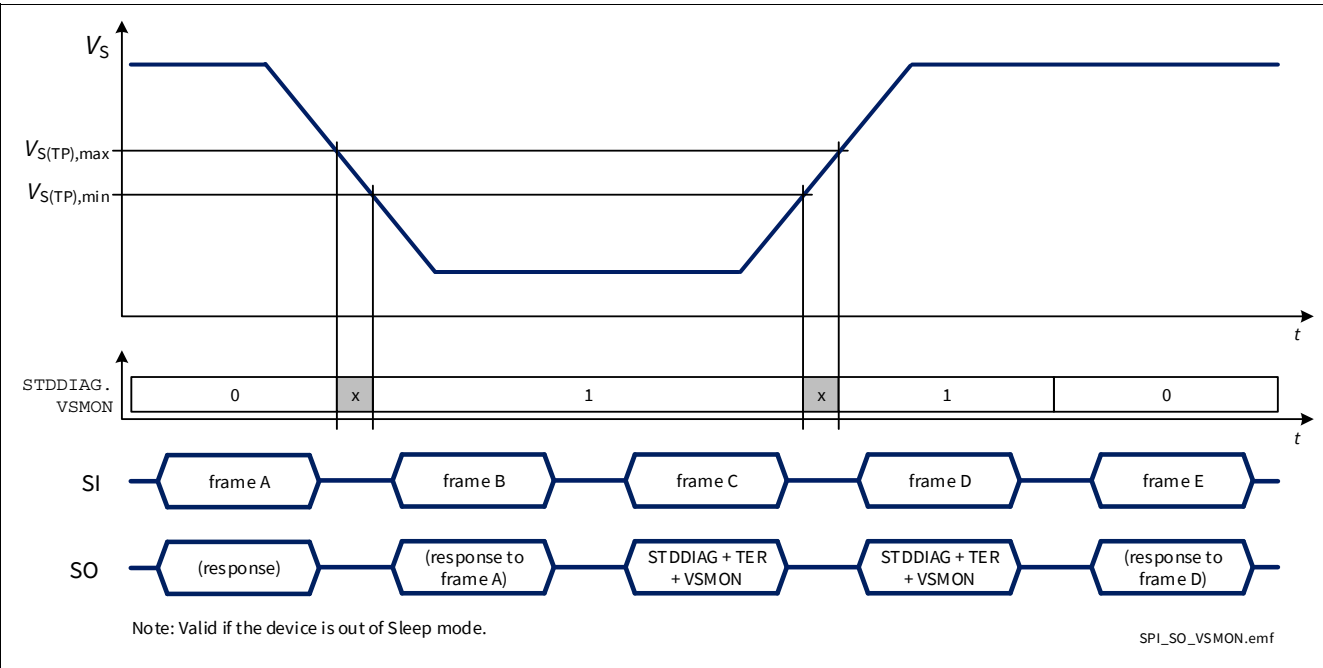

Figure 45 SPI response in case of voltage drop on battery
- When $V_S < V_{S(TP)}$ and **DCR.MUX** $\neq 111_B$, as shown in **Figure 45**